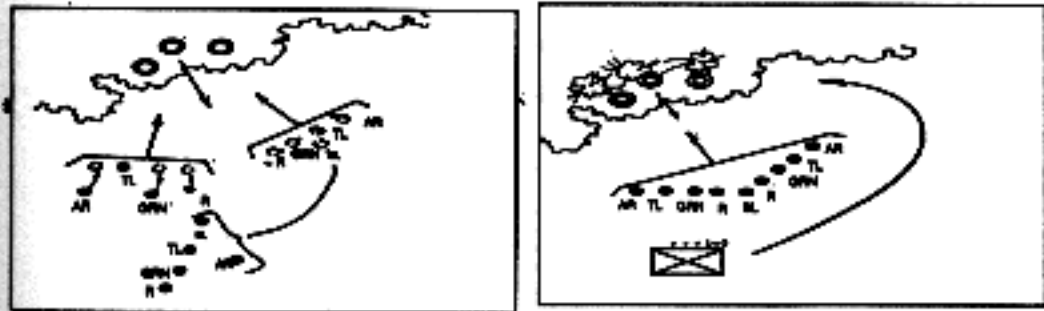

Figure 6-3. React to Contact.
4. **React to Contact (Platoon/Squad).** The enemy fires on the platoon/squad. The platoon/squad immediately assumes the best available covered and concealed positions and returns fire; locates the enemy and places well-aimed fire on their positions immediately (figure 6-3).